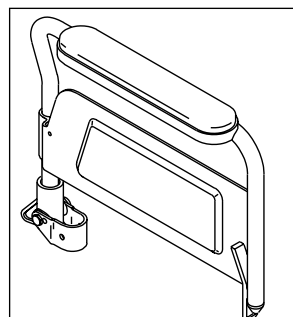

Figure 3
C. FLIP-BACK ARMRESTS (FIG. 3) (OPTIONAL)**1. Flipping Armrests Back**